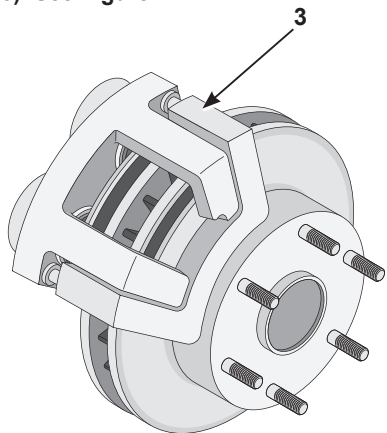

Figure 2
2. Look through the spokes of the wheel to find the brake caliper(3). See Figure 2.